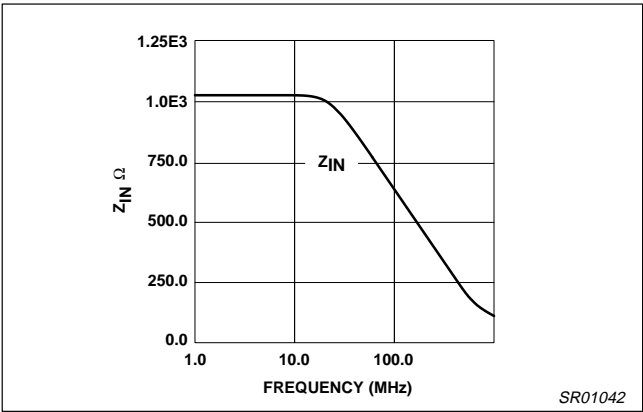

Figure 6. NE568A Input Impedance With $C_P = 0.5\text{pF}$ 20-Pin SO Package
- Input impedance depends on package and layout capacitances. See Figures 6 and 5.